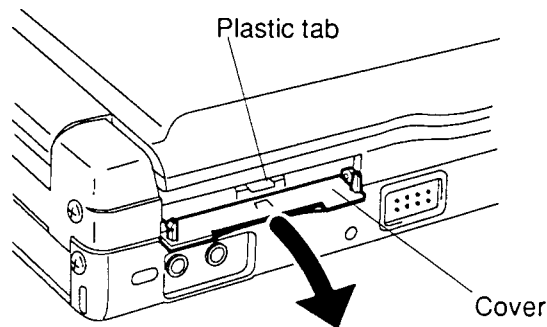

Figure 4-2 Opening the cover
To remove an optional memory card from the T4700CS/T4700CT/T4800CT, follow the steps below and refer to figures 4-2 and 4-3.
3. Open the **cover** to the expansion memory slot located on the left side of the computer (figure 4-2).
4. Grasp the **plastic tab** and pull it so that the card comes partially out of the computer (figure 4-2).
To install an optional memory card in the T4700CS/T4700CT/T4800CT, follow the steps below and refer to figures 4-2 and 4-3.
2. Close the **expansion memory cover** (figure 4-2).